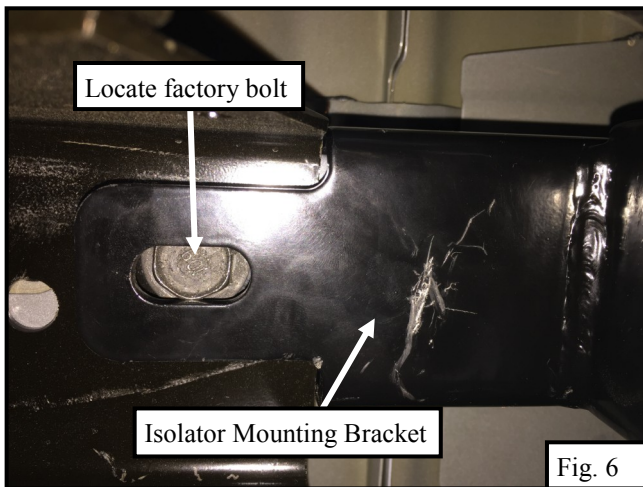

Fig. 6
8. Locate the Isolator Mounting Bracket (Item 5 or 6) and start on either the passenger or driver and repeat installation for other side. Move to the rear of the rocker panel and locate location of factory bolt. **See Fig. 6.**